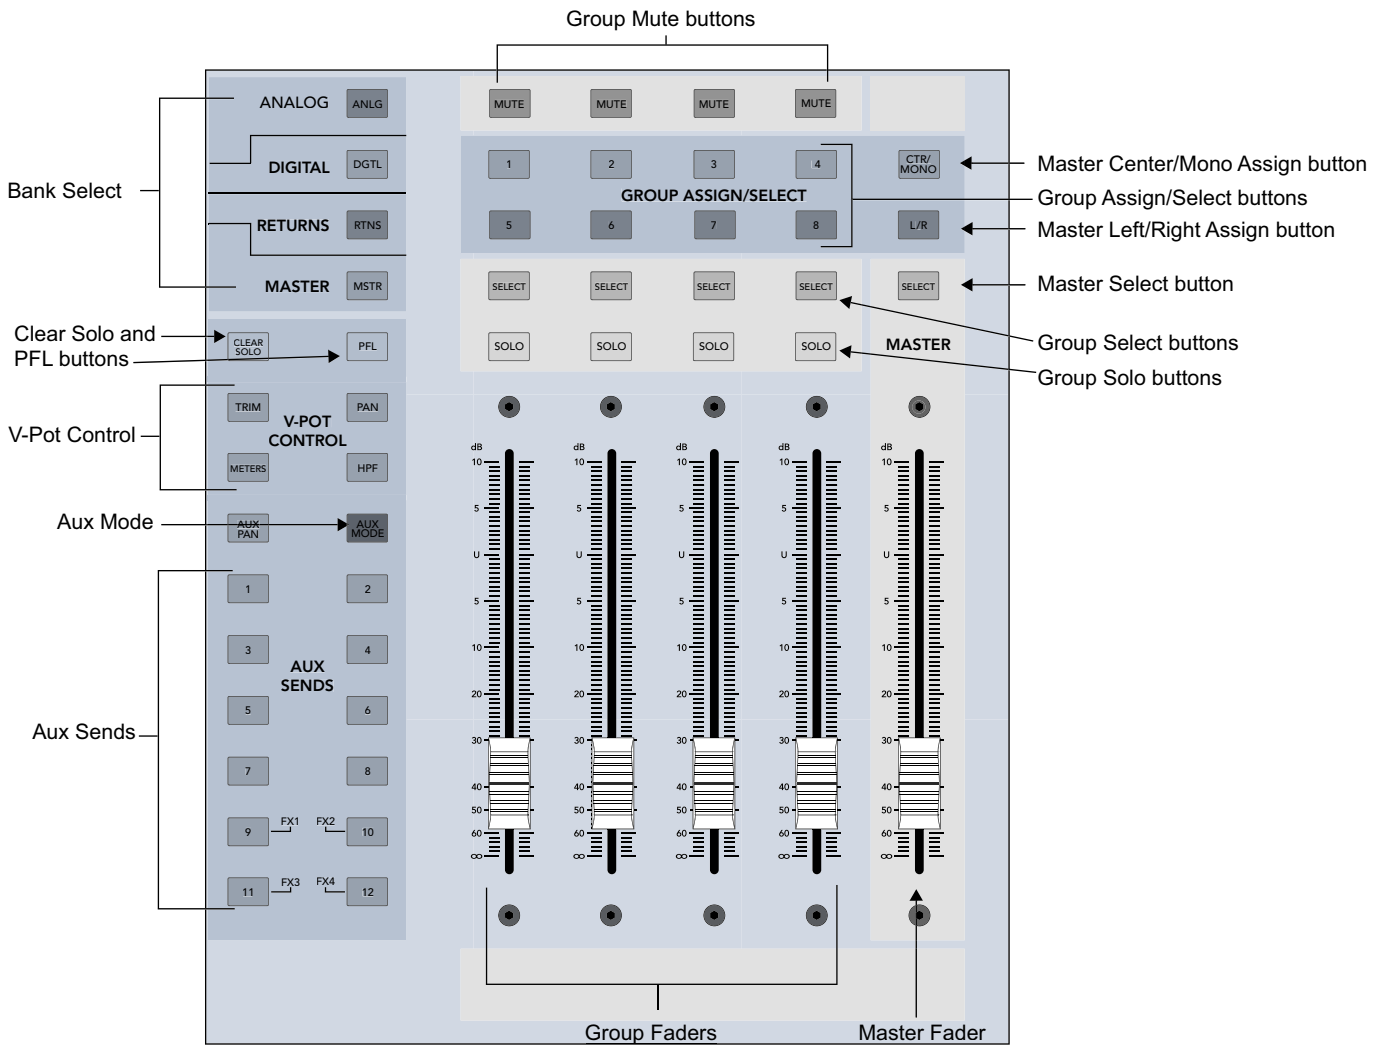

Figure 2-3 Aux, Group, and Master areas
9. Press and hold the **L/R** button in the GROUP ASSIGN area (Figure 2-3) and activate channel 1's **SELECT** button. All the channel **SELECT** buttons light, indicating that all channels are routed to the Main output. You should hear your mic in the speakers connected to **MAINS OUT** via the master fader.
13. Press **AUX SENDS 1** in the V-POT CONTROL area (Figure 2-3).
5. Press the **PAN** button in the V-POT CONTROL area (Figure 2-3).